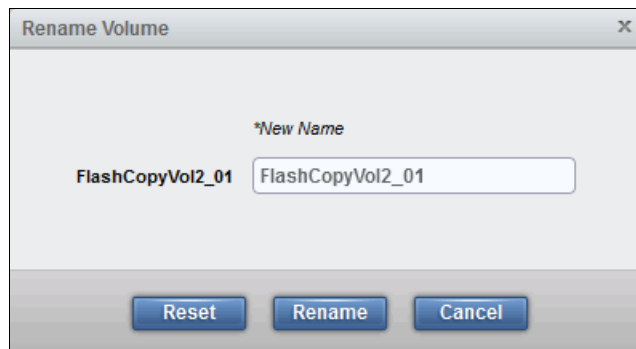

Figure 10-33 Rename a target volume
3. Enter your new name for the target volume, as shown in Figure 10-33. Click **Rename** to finish.